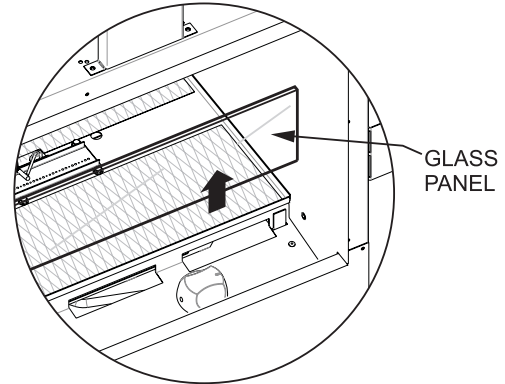

Figure 2
2. Remove the front and rear screens from the burner assembly. Lift and remove glass panel(s) from the burner (if installed). Place in a safe location to avoid damage. **See Figure 2.**